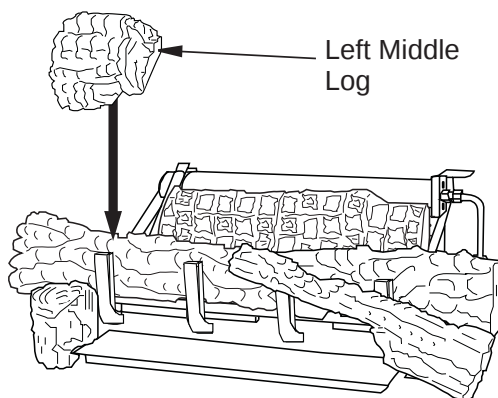

Figure 28 - Installing Left Middle Log
- The left middle log (18" D-066, 24" & 30" D-040) has a groove on the bottom to sit on the chassis and has to sit on the tab on the back of the left front log as shown in **Figure 28**.